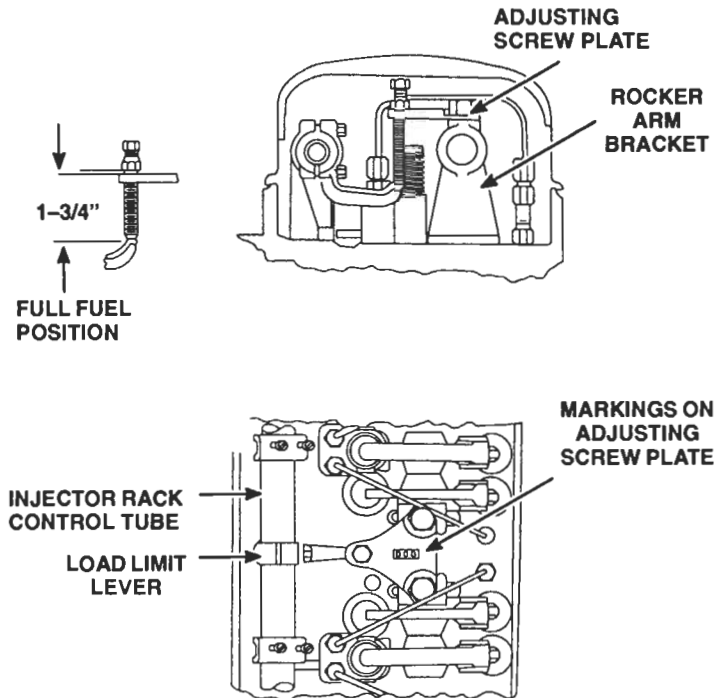

Figure 1. Engine Load Limit Device
3. With the screw out of the plate, adjust the load limit screw locknut so the bottom of the locknut is 1 3/4 inch from the bottom of the load limit screw (Figure 1.) for the initial setting.